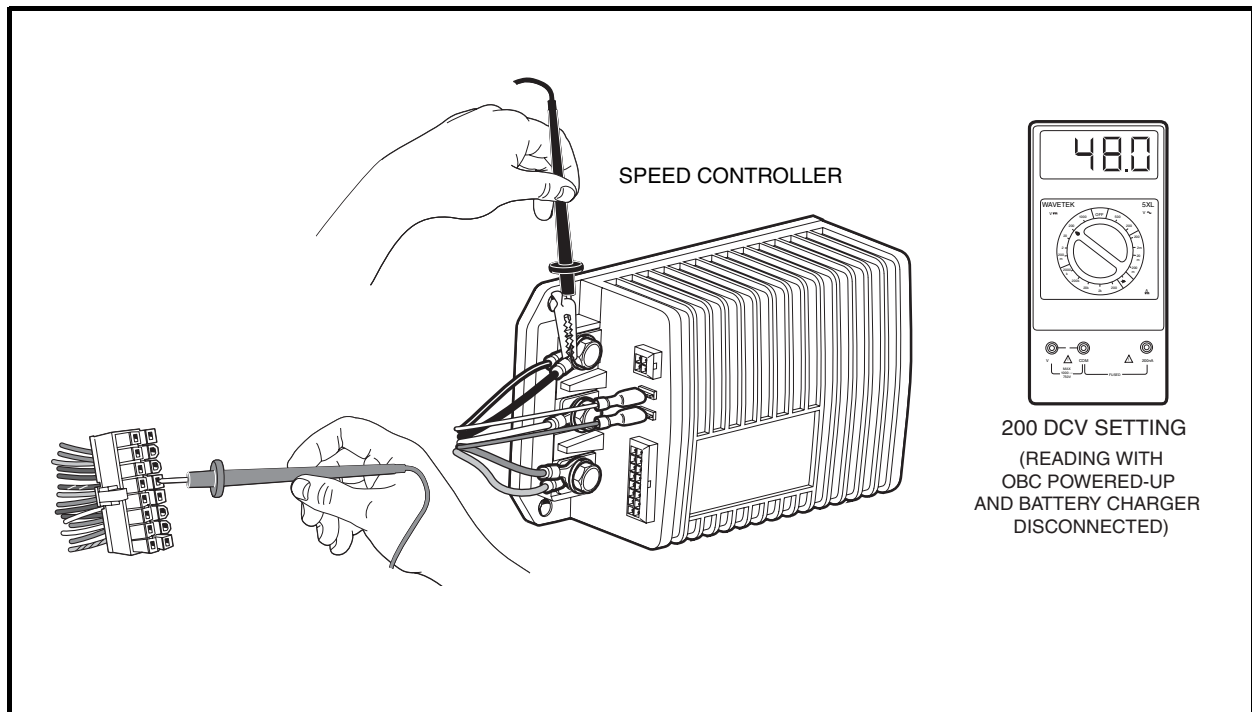

Figure 11-13 Pin 5 Test
4. Set a multimeter to 200 volts DC. Insert the red (+) probe of the multimeter into pin 5 (light blue wire) of the 16-pin connector. **See following CAUTION.** Using an alligator clip, connect the black (–) probe to the B– terminal of the speed controller (**Figure 11-13, Page 11-24**).